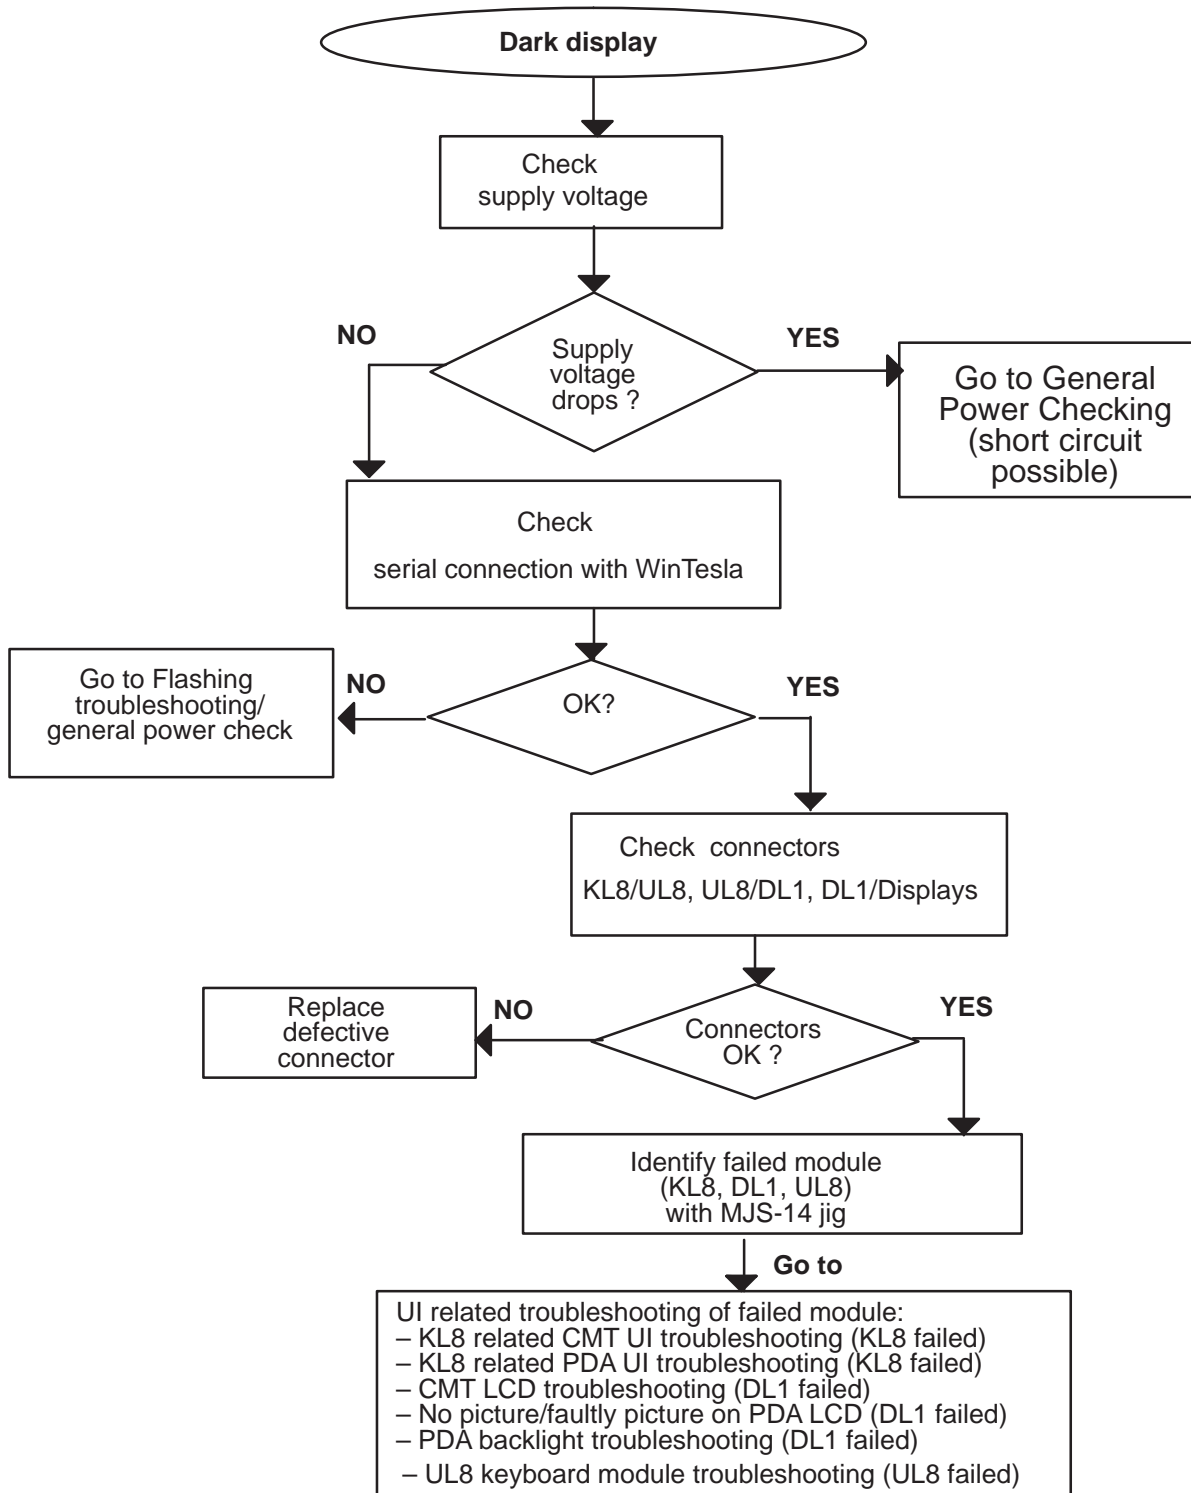

Figure 1.
3. Select the CMT to be tested from the "Display" panel and click "Start key test" (figure 1). The test starts and the button text changes to "Stop key test".